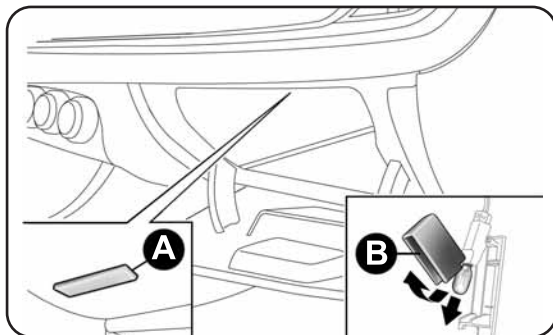

fig. 147
- open the glove compartment and extract the light A-fig. 147;